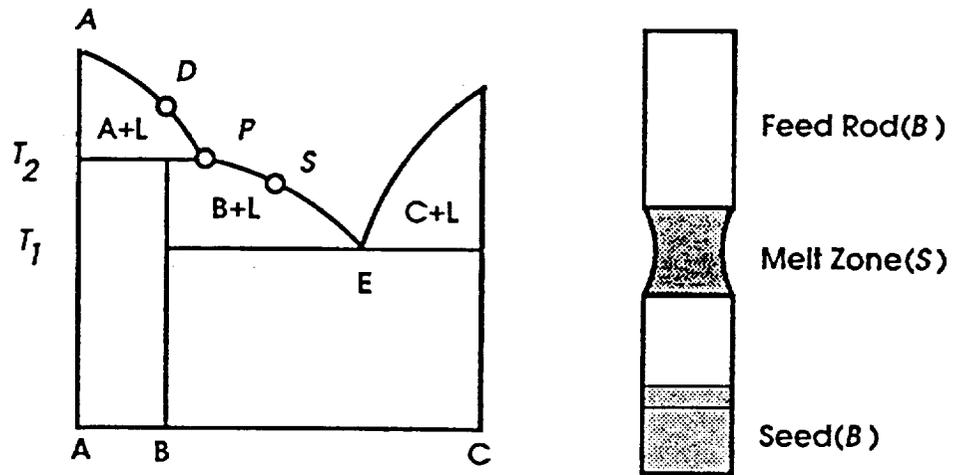

Figure 1. TSFZ method.
The TSFZ method is for growing a single crystal (B) of an incongruently melting compound from the high temperature solution having the composition (S) which coexists with the solid phase (B). B denotes the composition of the compound B in Figure 1. S denotes the composition of the high temperature solution coexisting with the compound B in Figure 1.